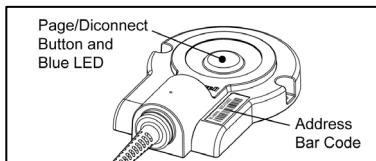

Figure 11.
2. Scan the address bar code located on the top of the access point device (see *Figure 11, on page 8*) to establish a communication link between the scanner and access point.
4. Scan the address bar code located on the top of the access point device (see *Figure 11, on page 8*) to establish a communication link between the scanner and access point.